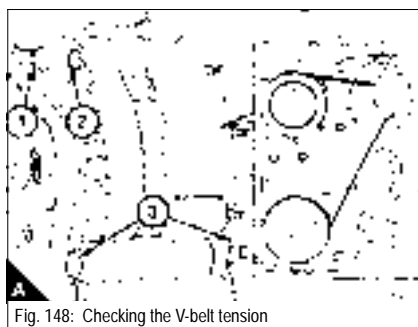

Fig. 148: Checking the V-belt tension
- Press with your thumb in the middle of the longest section between two pulleys (figure 148) to check whether the V-belt can be deflected, by no more than about 0.4 in (10 mm)